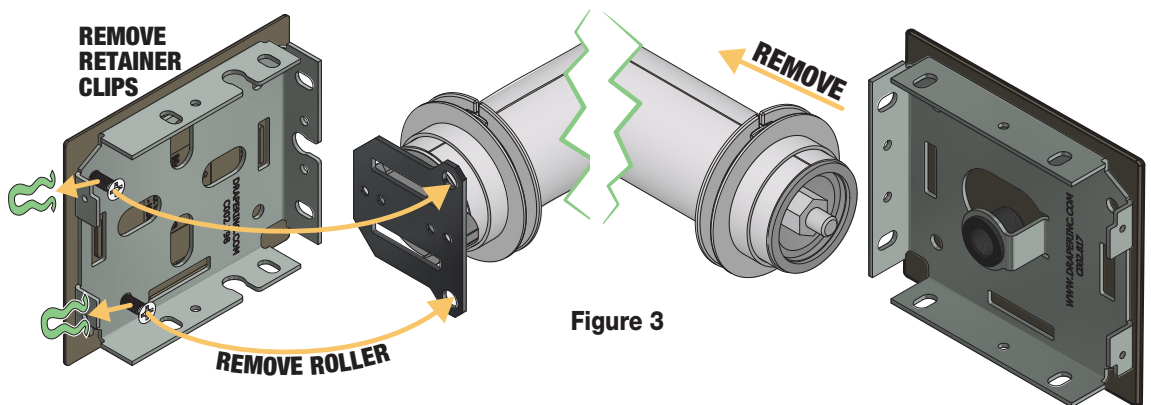

Figure 3
1. Locate motor roller assembly and remove from headbox. Remove retainer clips from motor end of roller (Fig. 3).